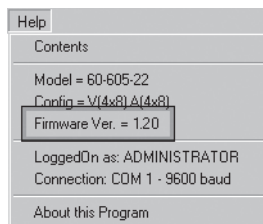

Figure 4-11 — Determining the firmware version
2. Click *Help* and read the firmware version. Figure 4-11 shows a sample read of the firmware version. The most significant digit of the firmware version listed (such as “1” in figure 4-11) identifies the firmware set.